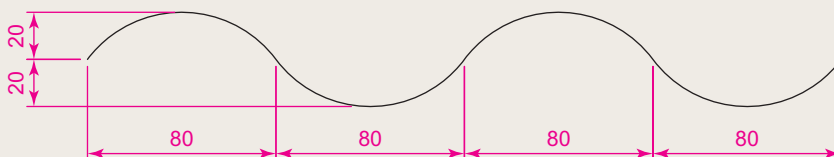
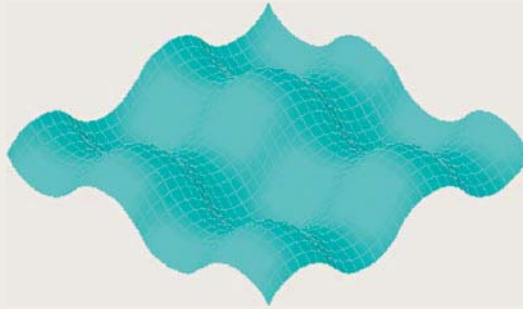

Fig. 17.47 Exercise 9 – one of the polylines from which the surface was obtained
Fig. 17.48 Exercise 9
9. Fig. 17.47 shows a polyline for each of the 4 objects from which the surface shown in Fig. 17.48 was obtained. Construct the surface and shade in **Realistic** shading.